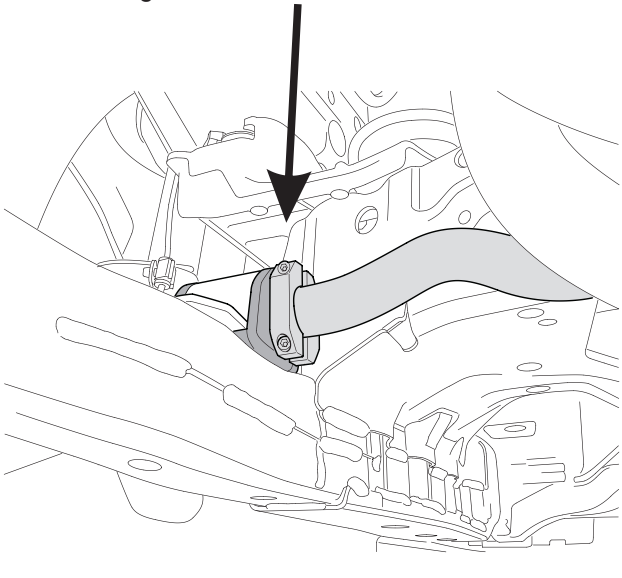

Fig.5 WHITELINE 3 hole Blade swaybar
- Whiteline Blade adjustable swaybars vary between 2, 3 and 4 holes per side, depending on application. Refer to Fig. 5 to work out the desired setting on how to connect the endlink. If multi-hole endlink brackets are supplied, choose the hole that maintains the endlink close to vertical.